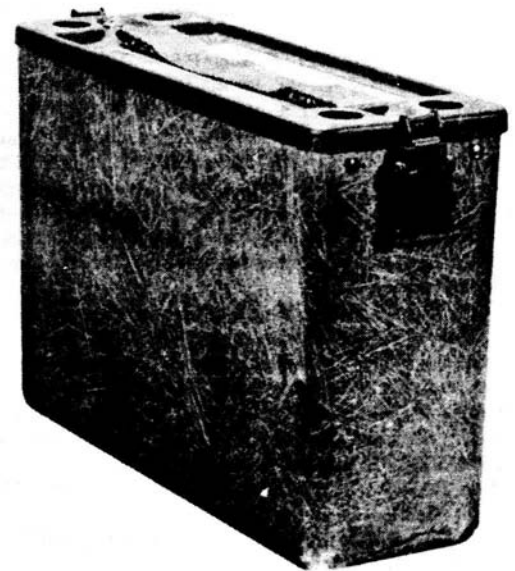

Figure 1-5. Storage Battery BB-451/U, Oblique View.
(4) STORAGE BATTERY BB-451/U. - Refer to figure 1-5.